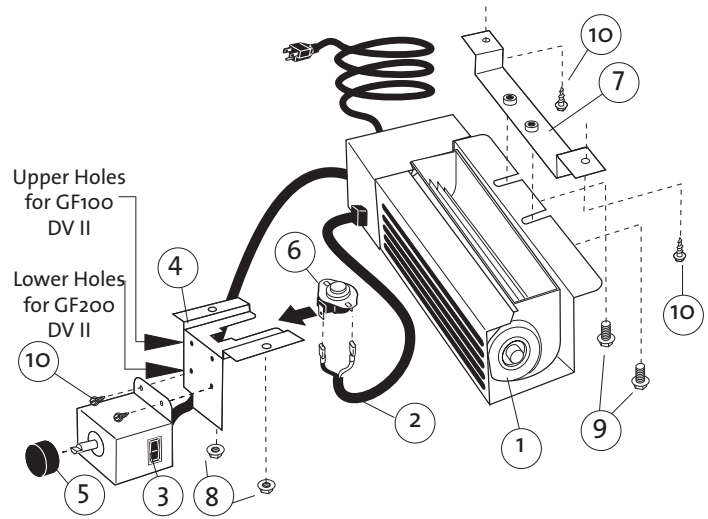

Figure 35. Blower Kit Components
1. **Unpack and check the contents** of the blower kit. Contact your dealer if any damage is evident or parts are missing. See fig. 35.
2. **Attach the Control Box to the Snapstat Bracket** using two #8 x 1/2" sheet metal screws. As shown in fig. 35, use the pair of mounting holes appropriate for your stove.
GF 100 DV II: First install the Mounting Bracket to the holes in the bottom of the rear shroud using two #8 x 1/2" sheet metal screws. Then attach the Blower to the Mounting Bracket using the two M6 flange head hex bolts as shown in fig. 35 and 37.
5. Attach either Snapstat wire connector to either Snapstat terminal. See figs. 35 and 37.